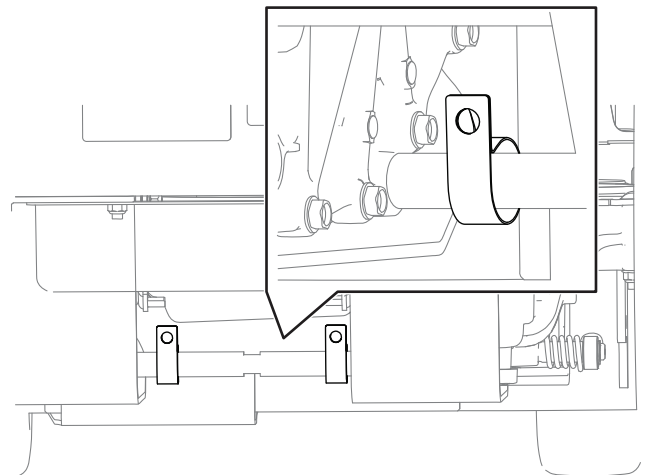

Figure 4
2. Install the R-clamps onto the rod. Ensure that the R-clamps face the correct direction as shown in Figure 4.